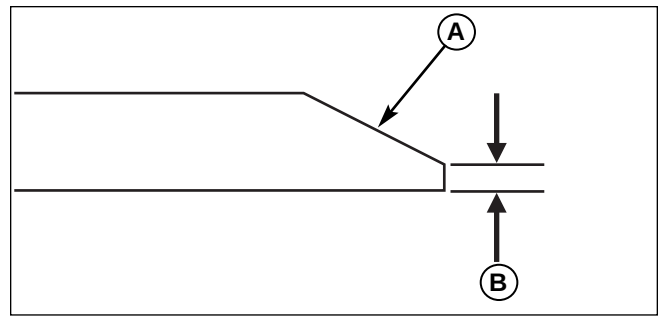

Figure 27. Sharpening the Mower Blade
3. Keep the original bevel (A, Figure 27) when grinding. DO NOT change the mower blade bevel.
4. The mower blade should have a maximum 1/64" (0,40 mm) cutting edge (B) or less.